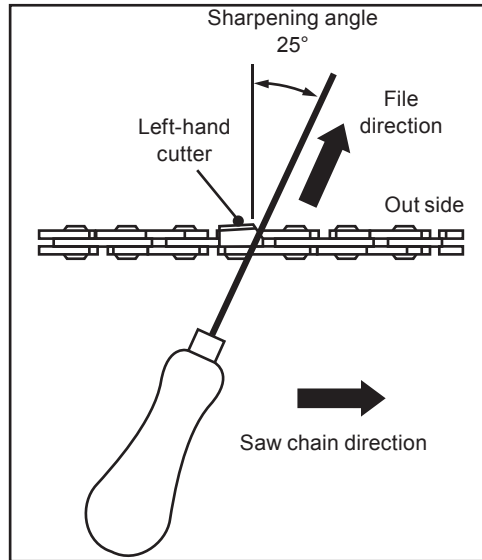

Fig. 41
5. File at an angle perpendicular to the bar, and at an angle of 25° to the direction of travel (Fig. 41).